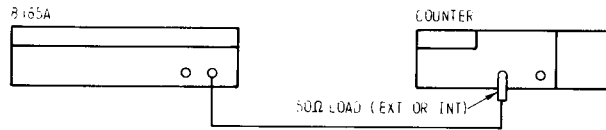

Figure 4-1. Test Setup for Frequency and Burst
1. Connect equipment as shown in Figure 4-1
3. Use figure 4-1 test setup and set counter to START.